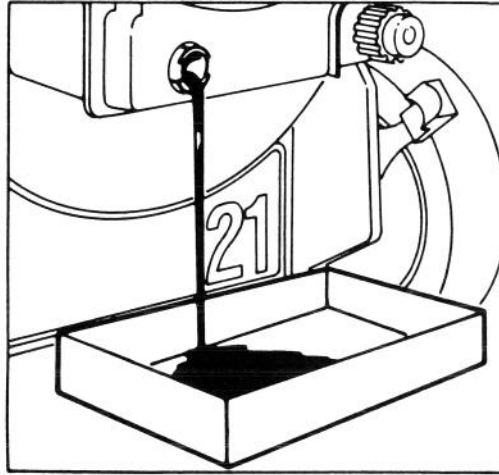

Figure 9
3. Remove dipstick. Tip mower forward and empty all oil into drain pan (Fig. 9). Tip mower down and up a few times to ensure oil drains completely.